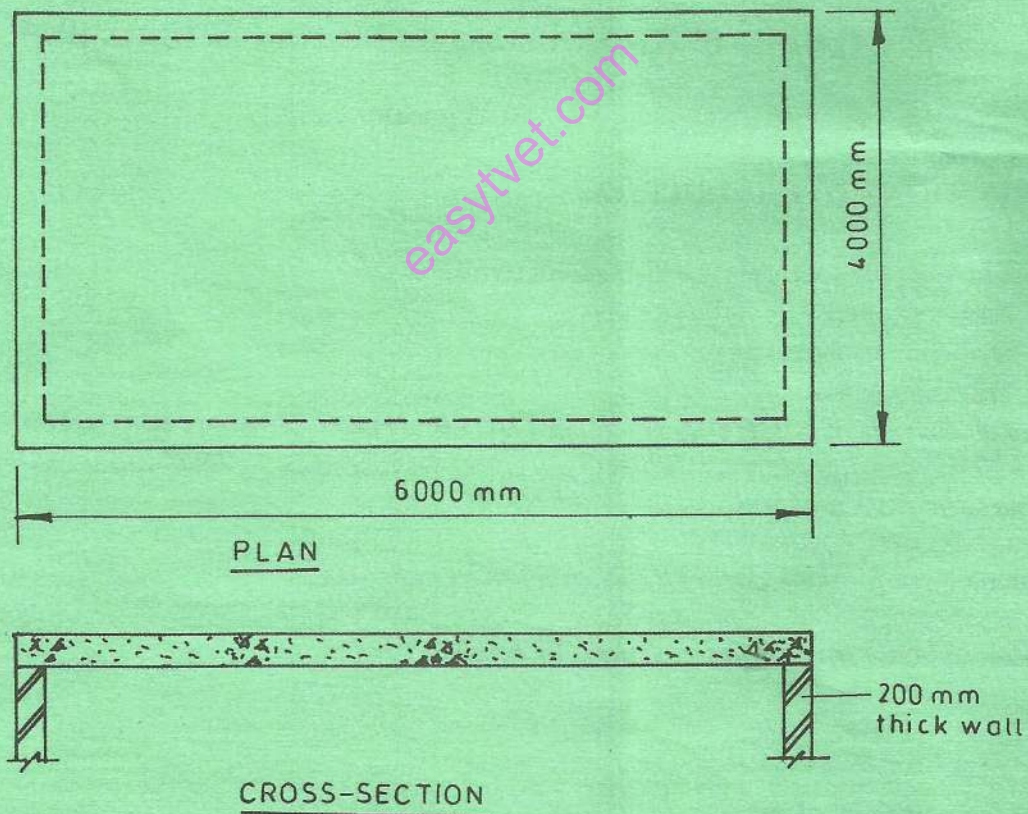

Fig. 1
1. (a) **Figure 1** shows a plan and section of a simply supported slab on four sides, of effective span 6000 mm by 4000 mm. Design and detail the slab using the following information: